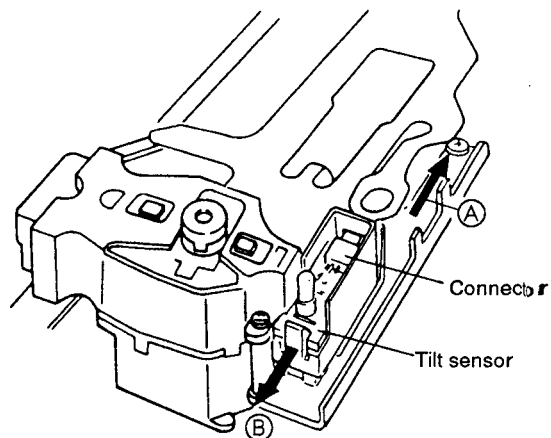

Fig. 7-9
7.7 REMOVING THE TILT SENSOR (Fig. 7-9)
- ① Remove the connector (arrow A) of the flexible cable and release the claw (arrow B) to remove the tilt sensor.